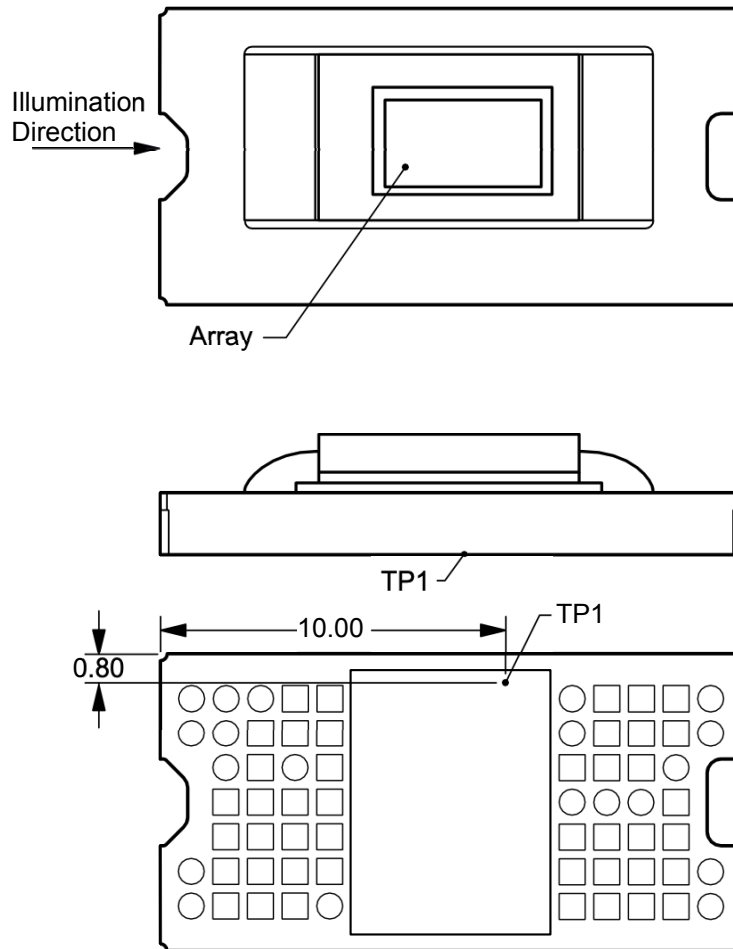

図 7-4. Thermocouple Location
Relationship between array temperature and the reference ceramic temperature (thermocouple location TP1 in 図 7-4) is provided by the following equations.
- $T_{\text{CERAMIC}}$  = measured ceramic temperature (TP1 location in 図 7-4) (°C)